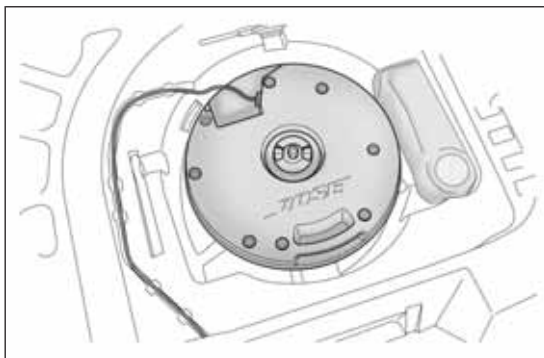

fig. 123
- ☐ take the "Fix&Go Automatic Kit" located on the left side of the luggage compartment (fig. 123);